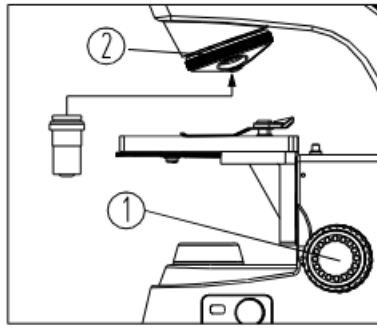

Fig. 3
1. Rotate the coarse focusing knob① to lower the stage to a suitable position (see Fig.3).
2. Install the objectives into the nosepiece② from the lowest magnification to the highest in clockwise direction.